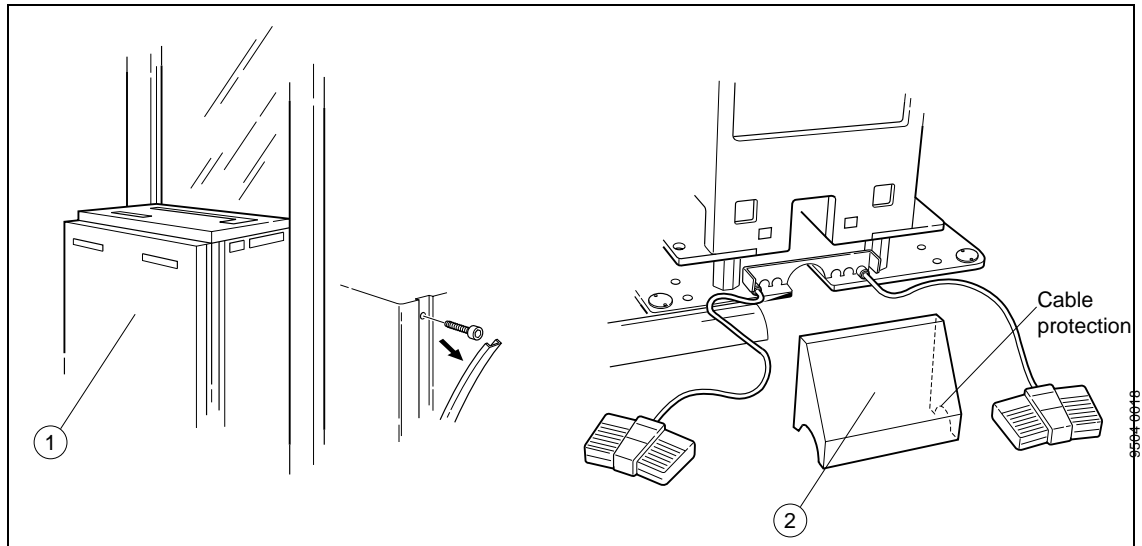

Figure 11.
- Remove the generator front cover (1/Figure 11).
- Remove the cable outlet cover (2/Figure 11).